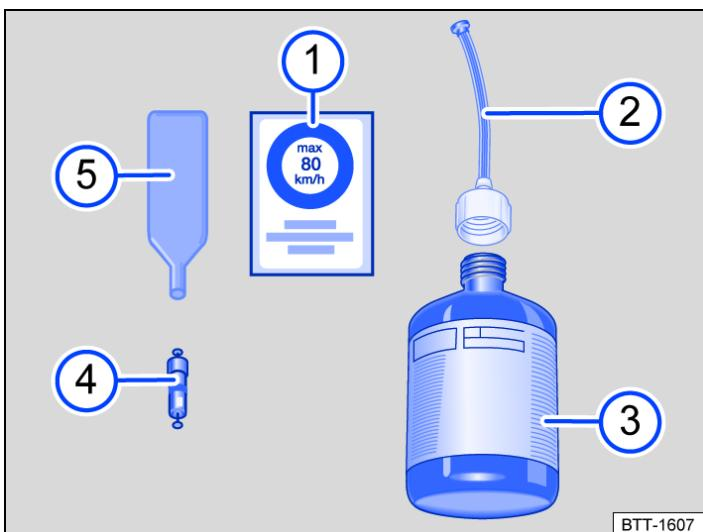

Fig. 1 Illustration: components of the breakdown set.
- (1) Sticker with the maximum permitted speed "max. 80 km/h" or "max. 50 mph".
- (2) Tyre sealant tube with plug.
- (3) Tyre filler bottle.
- (4) Spare valve core.
- (5) Valve core extractor.
There is a slot on the lower end of the valve core extractor → Fig. 1 (5) for the valve core. This is required for extracting the valve core from the tyre valve and then screwing it back into the valve again. This also applies to the spare valve core (4).